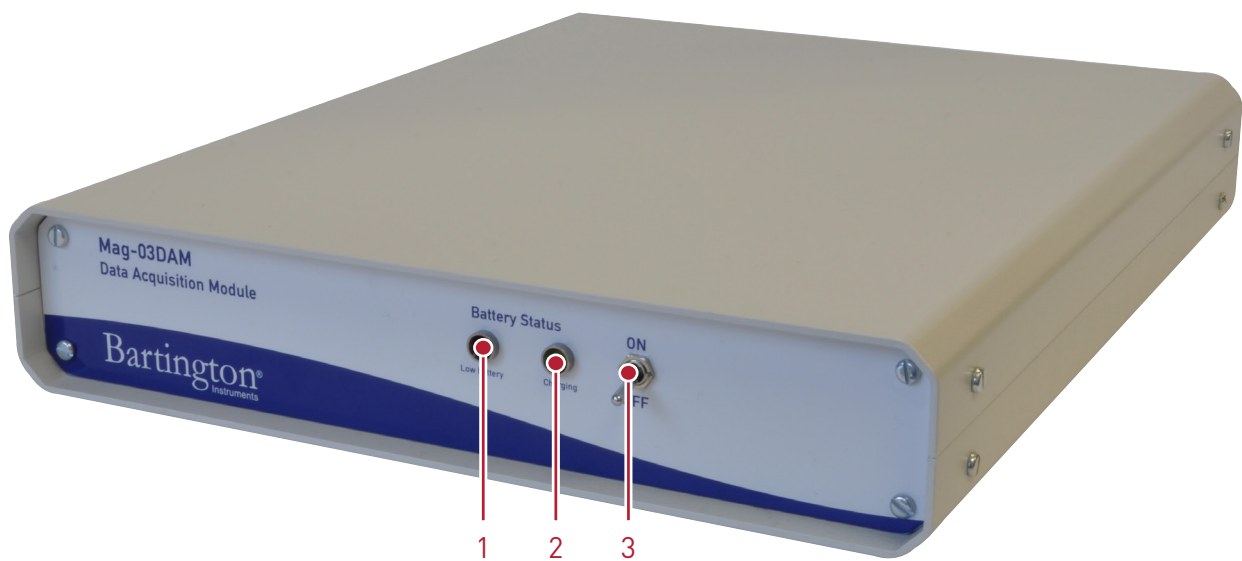

Figure 1. Mag-03DAM front panel
#### Key to Figure 1
**Note:** The battery will be charging whenever the mains adaptor is connected and powered. The On/Off switch (see Figure 1) controls only the power out to the sensor and data acquisition circuits. The “CHARGING” indicator on the front panel shows when the battery is being charged. It may be left on charge for up to a week but should not be left permanently on charge when data is not being collected.